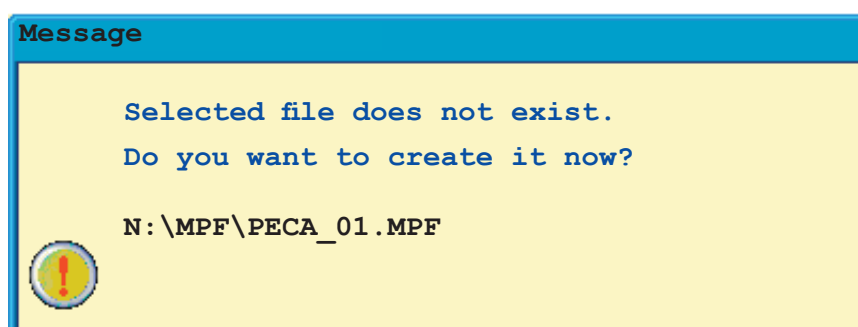

Figure 8-1. Prompt window for confirming program creation
6. Press [**OK**] soft key. A prompt window appears as shown in the figure 8-1: